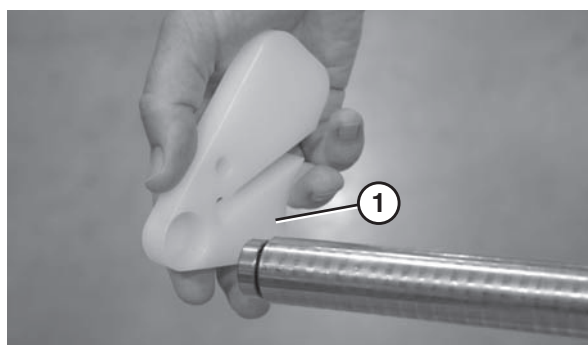

Figure 92
2. Remove the nose bar puck holders (**Figure 92, item 1**).